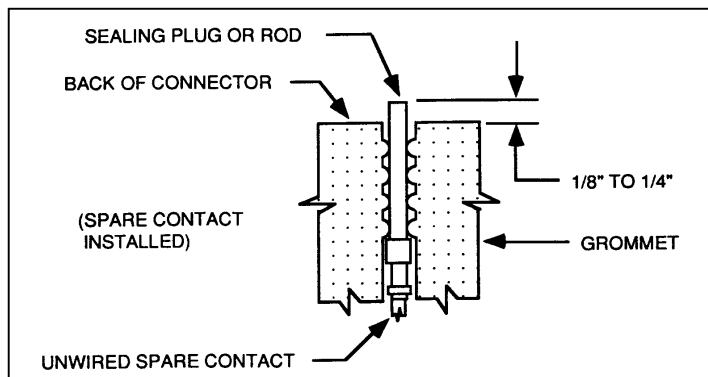

FIGURE 11-40. Sealing unused contact cavities-unpressurized areas-(cut-away view).
Fill unused contact cavities with spare contacts and Teflon sealing plugs or rods. (See figure 11-40.) Rods shall be cut so that they extend 1/8 to 1/4 inch beyond the surface of the grommet when bottomed against the end of the spare contact. (See table 11-26 for dimensions.)
a. Sealed connector installations. Sealed connectors installed in pressurized areas must have their unused contact cavities filled with Teflon sealing plugs or rods. (See figure 11-40.) Installation of spare contacts is optional, except for future wiring addition requirements. (See paragraph 11-234). No stub wires are required.